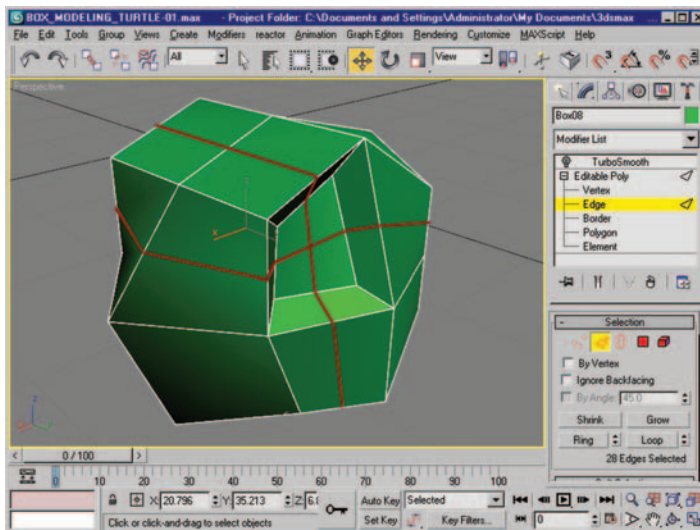

Figure 2.40 New edge loops, highlighted in red.
6. Use Connect to create a new edge loop horizontally (with your horizontal edge-ring selection), or use a keyboard shortcut to connect (I have mine set to Ctrl+Shift+E). Do the same steps for the top and bottom edge of the eye opening. Select the top edge, Ring select, and then use the Connect tool. Figure 2.40 shows the new edge loops highlighted in red.